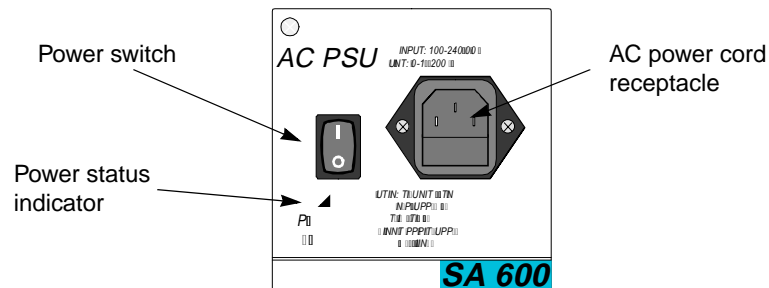

Figure 4-9. SA 600 AC Power Supply
1. Make sure the unit's power switches are toggled off (see Figure 4-9 for switch location).
1. Toggle the power supply's power switch off (see Figure 4-9).